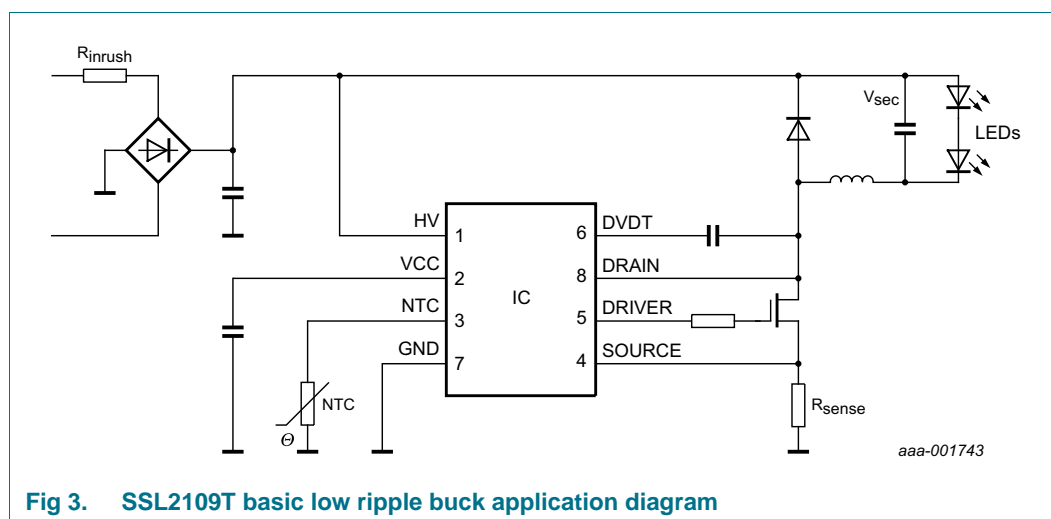

Fig 3. SSL2109T basic low ripple buck application diagram
- Low component count LED driver solution (see Figure 3):
The converter in the SSL2109T is a Boundary Conduction Mode (BCM), peak current controlled system. Figure 3 shows the basic application diagram. Figure 4 shows the waveforms.